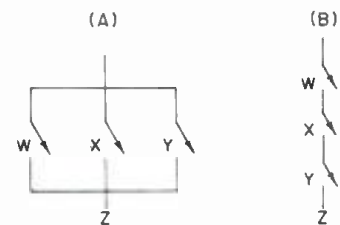

Figure 1. Two simple switching circuits.
In Figure 1, each circuit (A) and (B) contains three switches, w, x, and y. Depending on their positions—on or off—(1 or 0) there either is (1) or is not (0) an output at point z.
If you can stick this out a little longer, you'll see the point of getting so involved in defining what seems to be a simple collection of on/off switches. Applying Boolean algebra to Figure 1(A), we can say that there is an output 1 at point z if either w or x or y are closed (1). In Figure 1(B), z = 1 if, and only if, w and x and y are all closed.
The circuit in Figure 1(A) may be referred to as an *or* circuit, since there will be an output if w or x or y are closed. Figure 1(B) is an *and* circuit, since there will be an output only if w and x and y are all closed. The *or*
Figure 6 shows the first step in designing such a circuit. The black boxes labelled *and gate* or *or gate* are transistorized versions of the switches shown earlier in Figure 1. *And gate 1* will conduct only if there is a potential at both points a and c, a condition which will exist only if diodes a and c are both conducting. And this will only happen if both waveforms L and R are negative. If they are both positive, diodes b and d will conduct, and *and gate 2* will conduct. In either case, *or gate 1* will conduct and a positive voltage will be found at point x. *And gates 3 and 4* will conduct only when waveforms L and R are unlike in sign, therefore *or gate 2* will conduct, and a negative voltage will be produced at point y. In the absence of information from either waveforms L or R, neither of the associated diodes will conduct, consequently none of the *and gates* will turn on, and there will be zero potential at both points x and y. Points x and y may be connected together, filtered, and fed to a zero center meter. A zero reading will indicate that during the measurement interval the waves L and